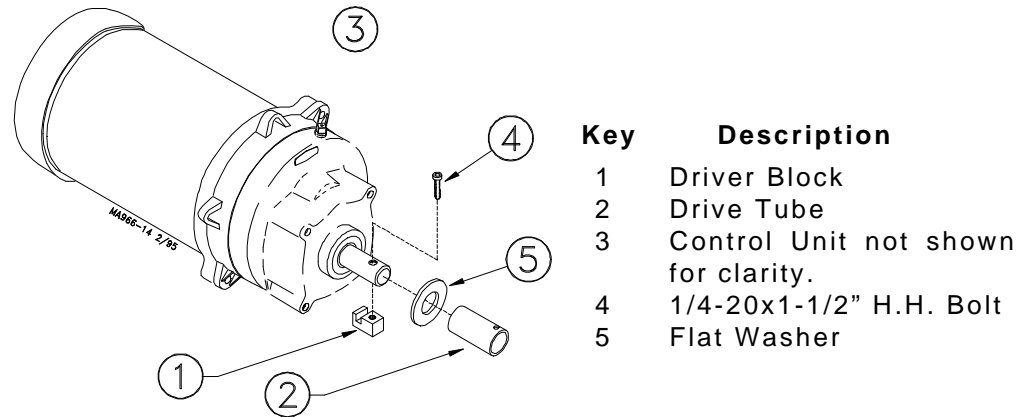

Figure 46. Auger Driver Components.
5. Slide the Drive Tube and flat washer over the output shaft on the Power Unit, as shown in **Figure 46**.